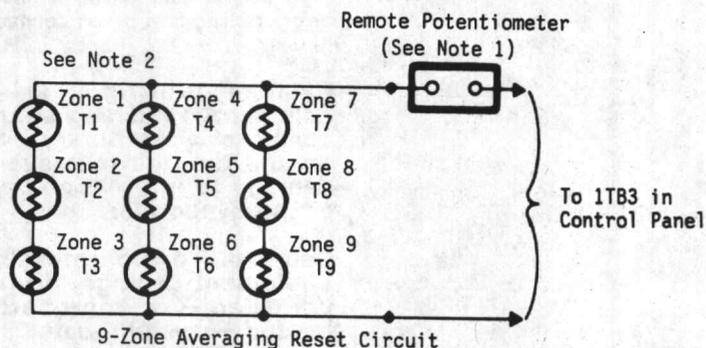

**Figure 14**
**Note:** Placement of a single zone sensor in any one location may not provide an accurate indication of actual building load. To more accurately determine building load, install multiple sensors and connect them to the chiller control in a series-parallel wiring configuration; refer to Figure 14 for a typical wiring arrangement.